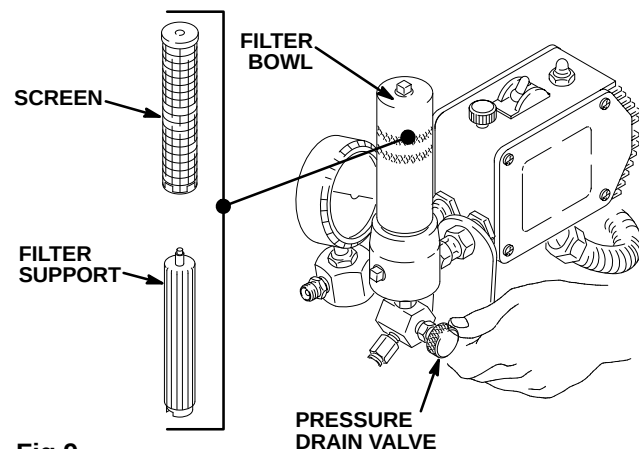

Fig 9
- Remove the spray tip from the gun. Remove the filter bowl and screen; see manual 307–273. Clean the screen separately and install the bowl without the screen to flush it. See Fig 9.